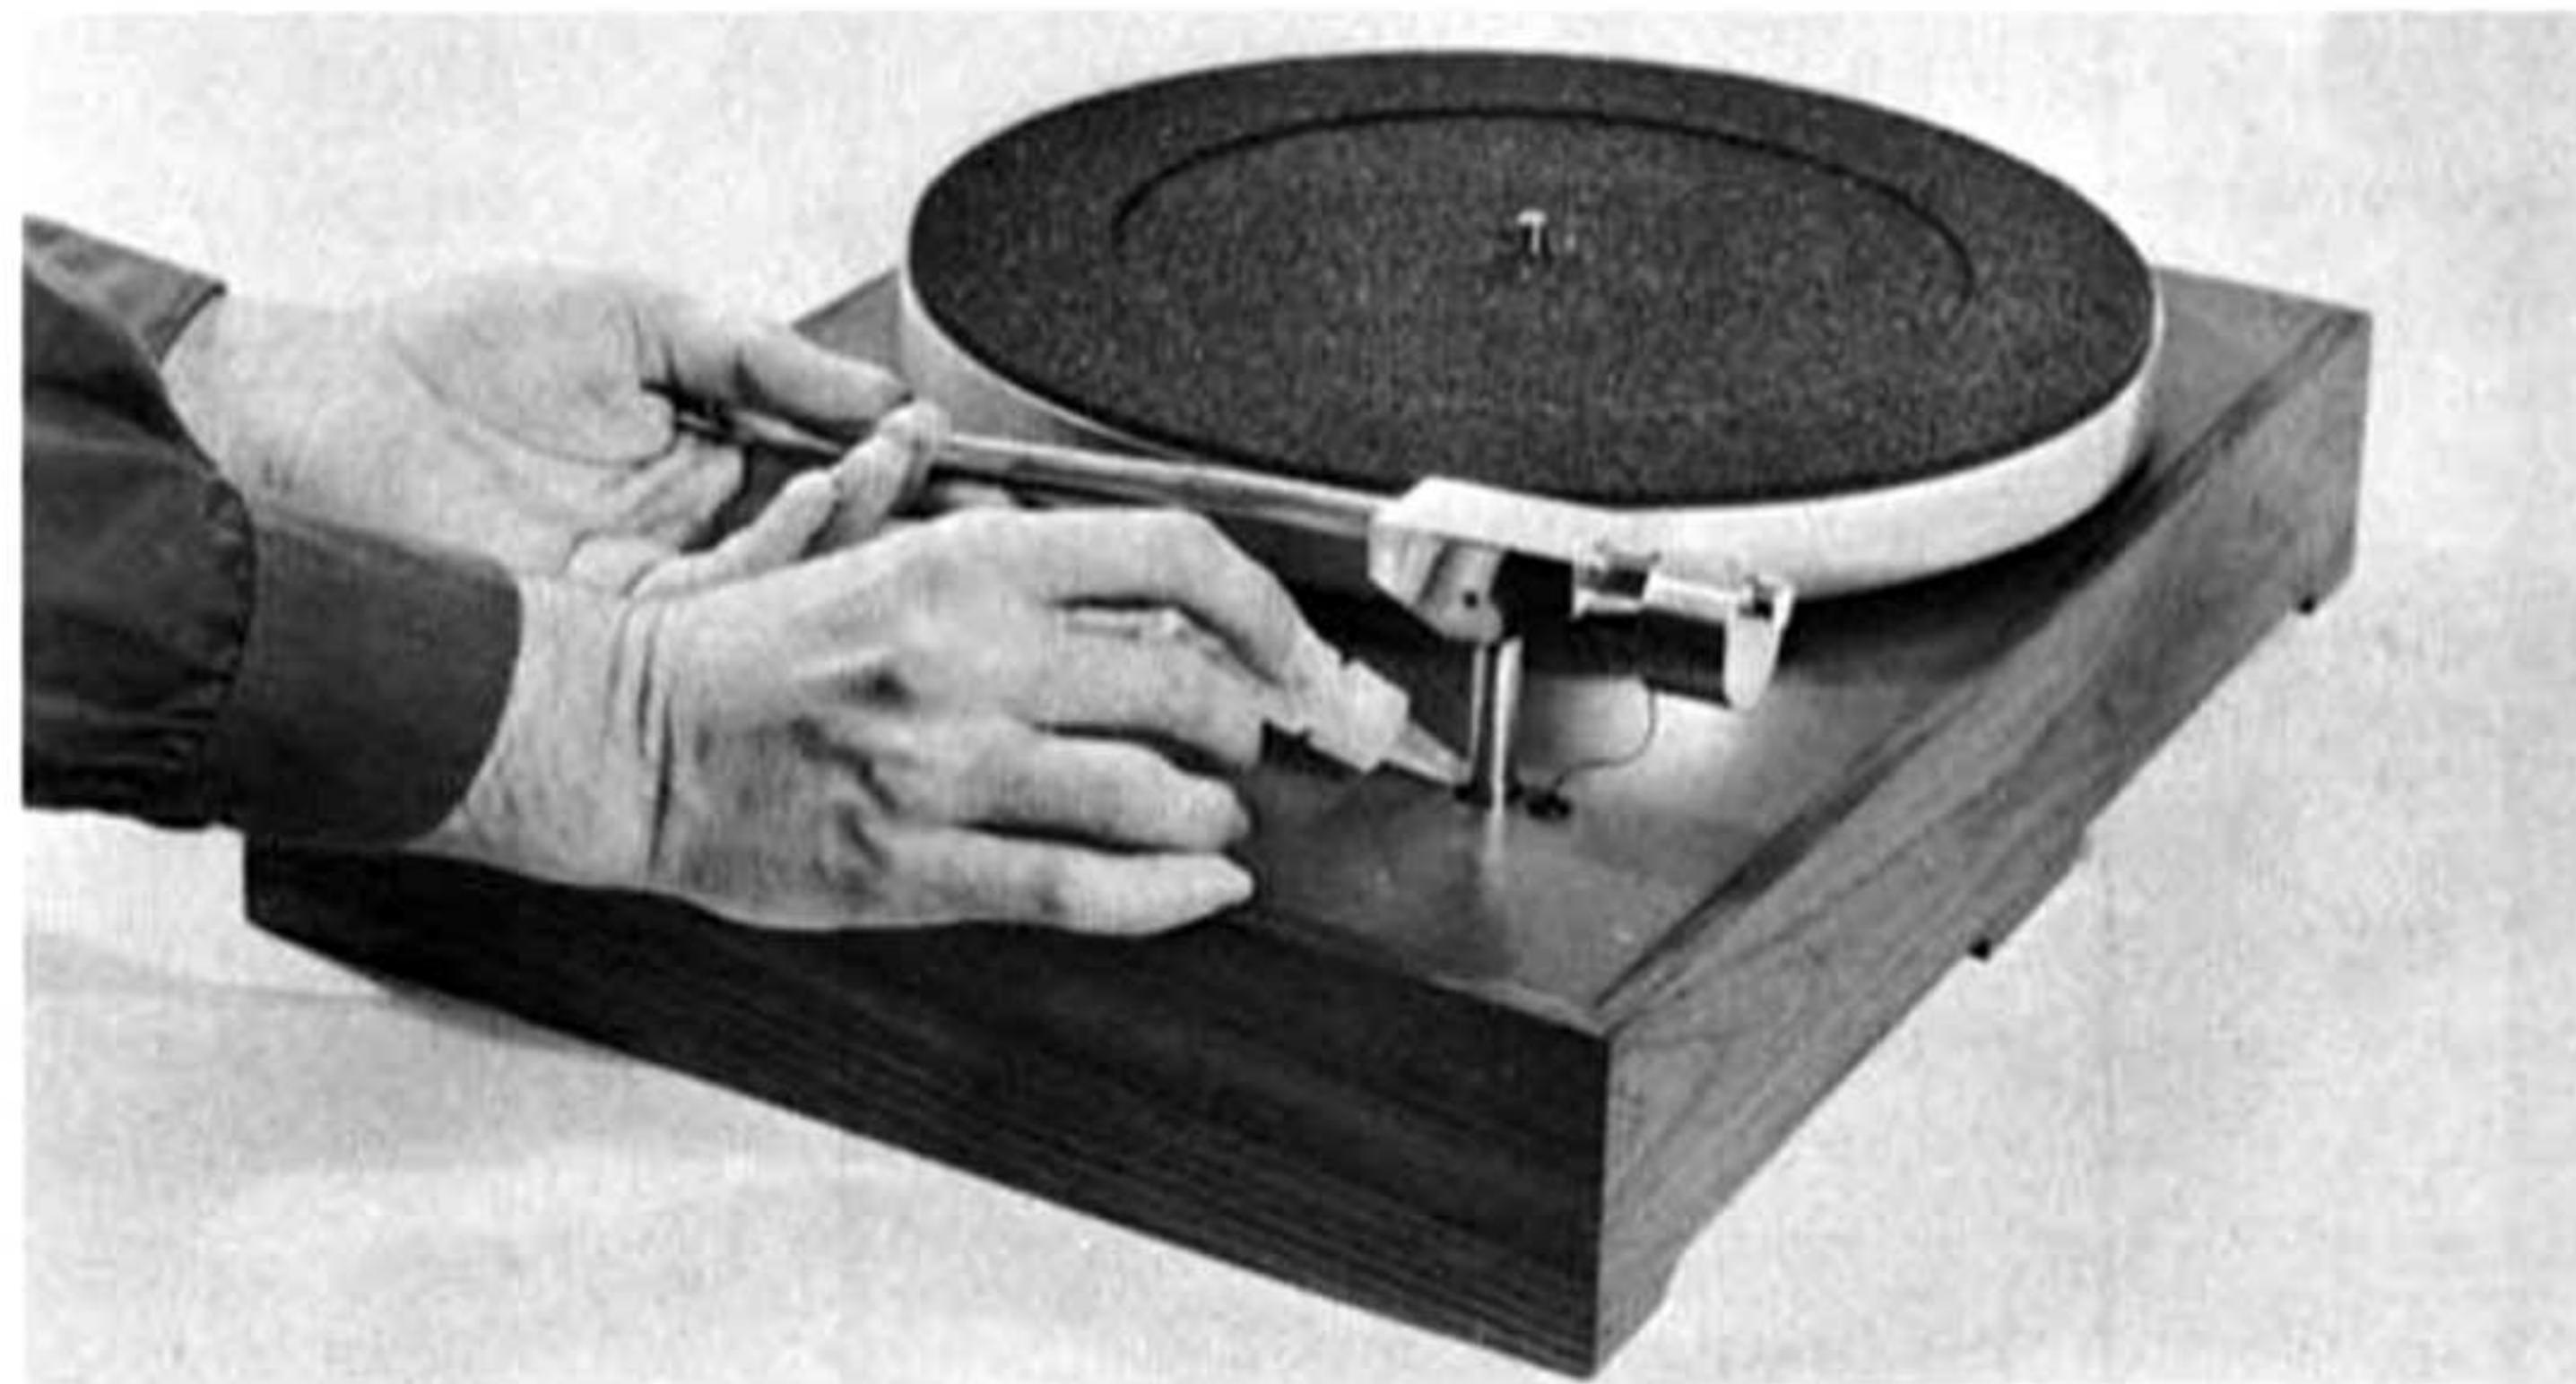

Figure 7
- a. Lift the tone arm assembly a little, and apply oil from the squeeze bottle to the dark gray foam washer at the top of the bearing. (*See Figure 7.*)